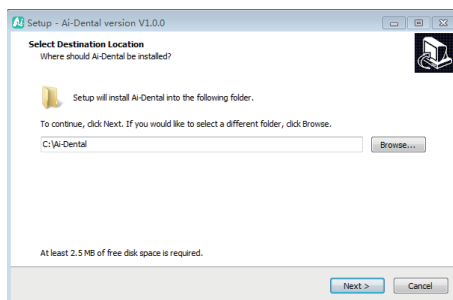

Figure 4
c) After the installation program is started, click the “Browse” button to select the installation path. After the path is selected, click the “Next” button, as shown in Figure 4: